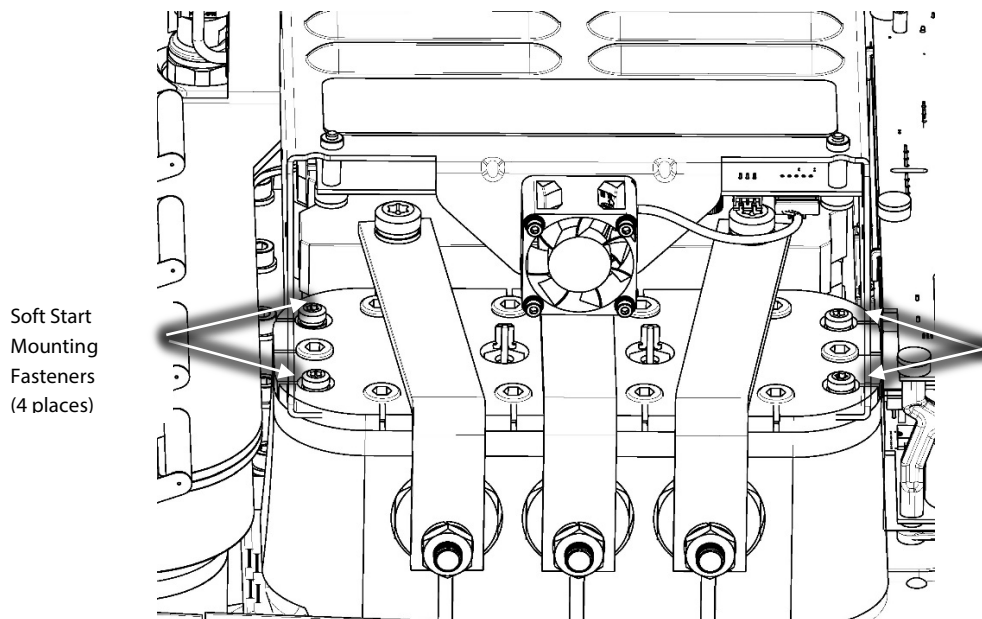

Figure 2 – Soft Start Mounting Fasteners
8. Remove the M5x15 fasteners that secure the Soft Start mounting bracket to the compressor. Refer to Figure 2 (Soft Start Mounting Screws).